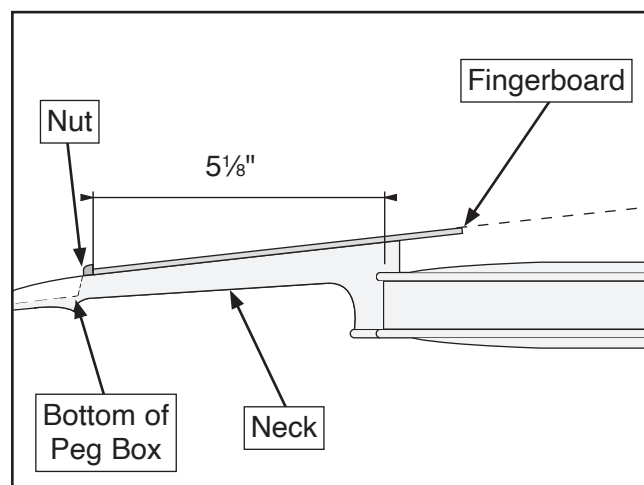

Figure 6. Fingerboard attached.
4. Attach fingerboard to neck with wood glue. Top of nut should be even with bottom of peg box (see **Figure 6**).
Note: Measurement from bottom of nut to top of body should be $5\frac{1}{8}"$ (see **Figure 6**).